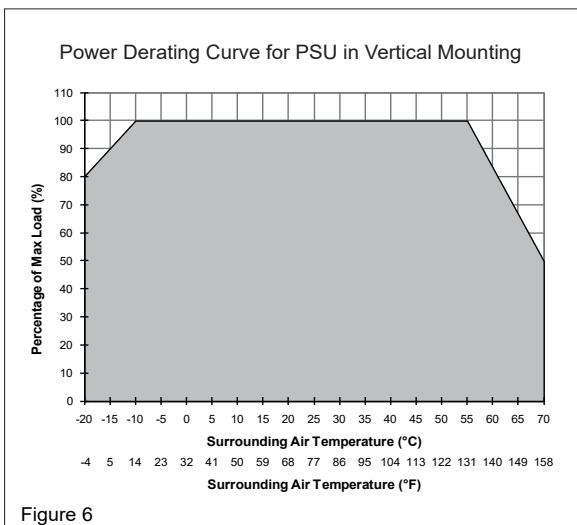

Figure 6
5.4. Thermal behavior (Fig. 6)
Derating	Refer to Fig. 6 -10°C to -20°C (2%/°C), > 55°C (3.33%/°C) in vertical orientation